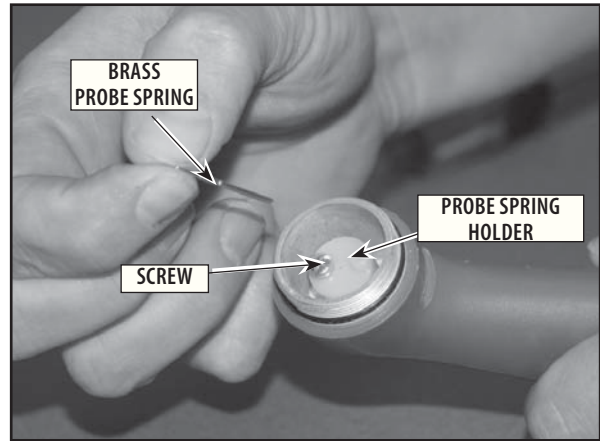

FIGURE 6.25
2. Remove the brass Probe Spring and inspect for damage. Retain the Probe Spring for installation if undamaged. **Refer to Figure 6.25.**
3. Using a #1 Phillips screwdriver remove the screw securing the Probe Spring Holder to the Applicator housing. **Refer to Figure 6.25.**